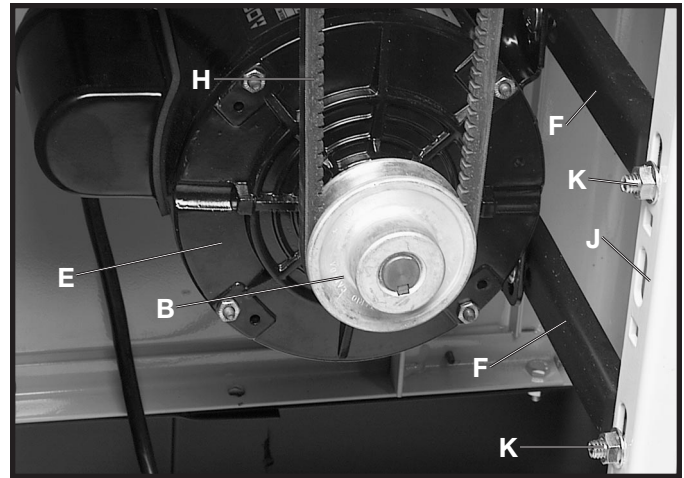

Fig. 7
Assemble the drive belt (H) Fig. 7 to the arbor pulley and motor pulley (B). Adjust for proper belt tension by raising or lowering motor (E) on motor mounting posts (J) (one is shown), by loosening four mounting nuts, two of which are shown at (K). If necessary, the motor mounting bars (F) can be repositioned on two mounting posts (J). **NOTE: MAKE CERTAIN BOTH PULLEYS ARE KEPT IN ALIGNMENT WHEN ADJUSTING BELT TENSION.** Correct belt tension is obtained when there is approximately one inch deflection in the center span of the belt using light finger pressure.